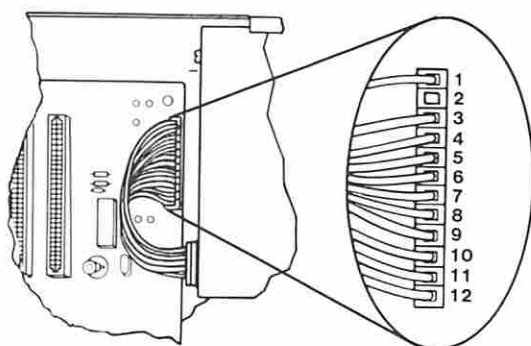

Figure 3. Expansion Board Power Connectors
- Check the voltages at the expansion board power connector, refer to Figure 3 on page 1800-5.
- Check the voltages at the expansion board power connector, refer to Figure 3.